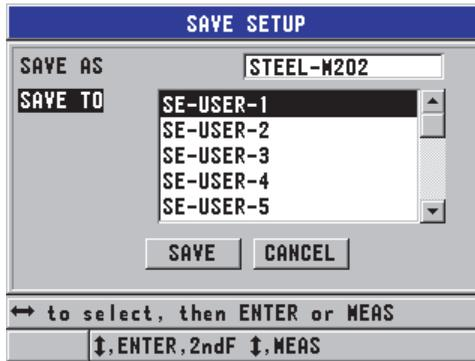

Figure 10-17 Saving custom setups
4. In the **SAVE SETUP** screen (see Figure 10-17 on page 178):